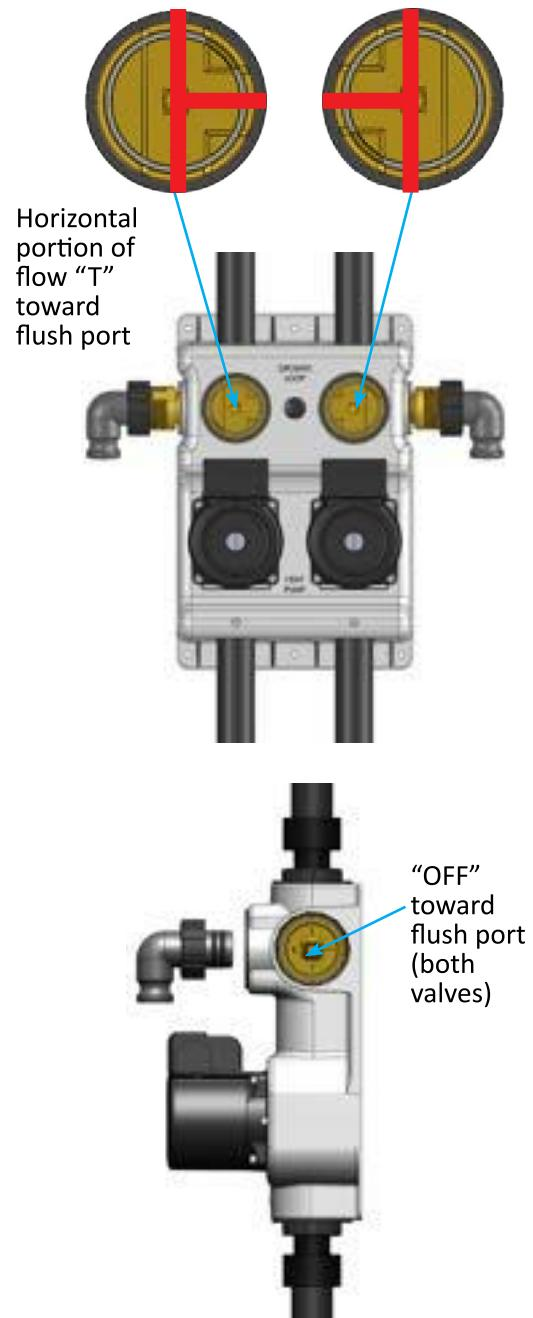

Figure 11: FPT flow center (top) and Flo-Link Double O-ring flow center (bottom) valve positions in operating position
27. If installing a pressurized system, rotate the 3-way valves so that the flush cart is isolated from the system. Figure 11 shows an example of how the valves may be oriented. This will vary depending on the type of flow center installed.